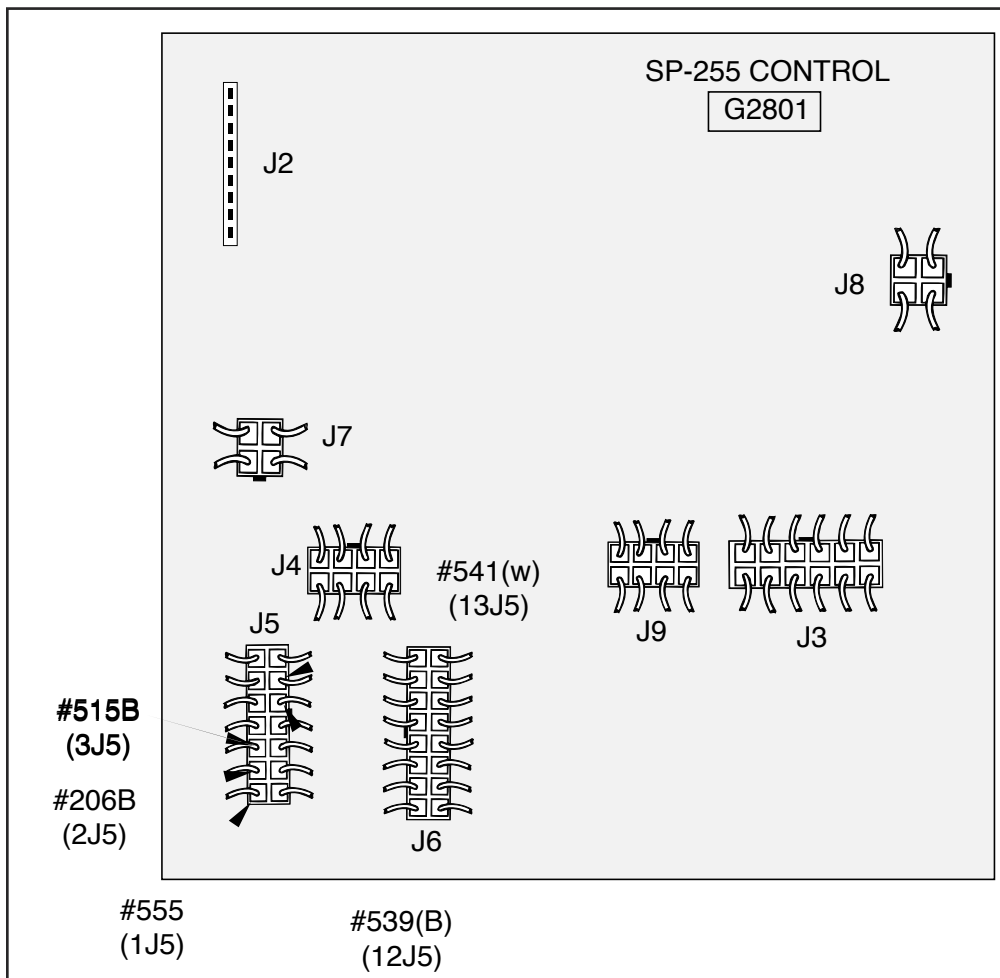

FIGURE F.10 - Plug J5 Location on G2801 PC Control Board.
3. Locate Plug J5 on the G2801 Control Board. See Figure F.10.
4. Test for 2-25 VDC between lead #539(B) (positive) and lead #541(W) (negative) to determine if the correct armature voltage is being supplied. **See Figure F.10.**
1. Test for 15 VDC between lead #515B (positive) and lead #206B (negative). **See Figure F.10** for pin locations.
1. Test for 1.5 - 3.5 VDC between lead #555 (positive) and lead #206B (negative). **See Figure F.10** for pin locations.